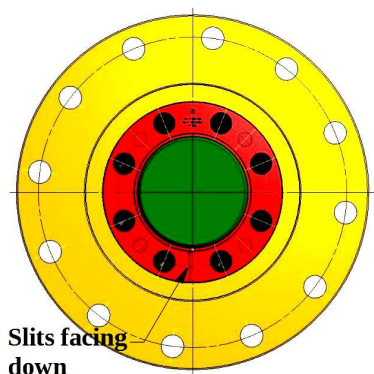
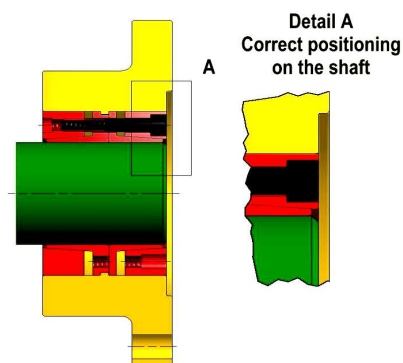

Figure 4a.
Figure 4b.
4. By using suitable lifting equipment, slide the complete coupling half with the slits in the Locking Assembly MAV 7161 facing vertically downwards onto the shaft (Figure 4a), until the axial position as shown in Figure 4b is achieved. Relocate screws used for disengagement of rings.